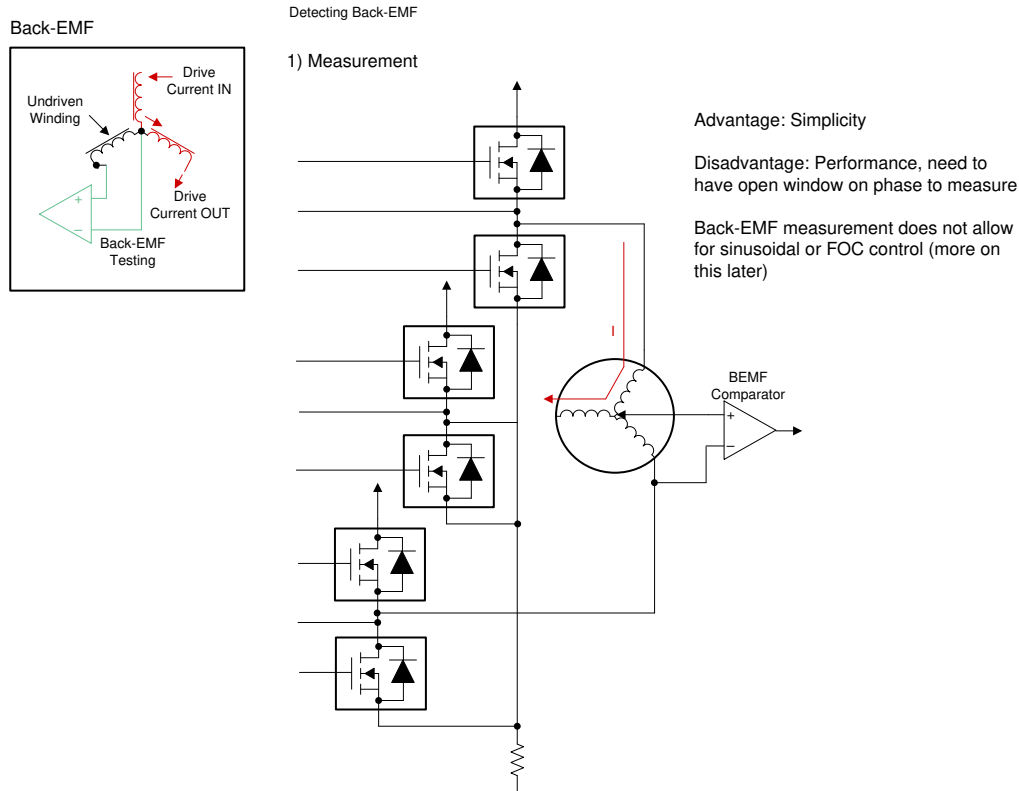
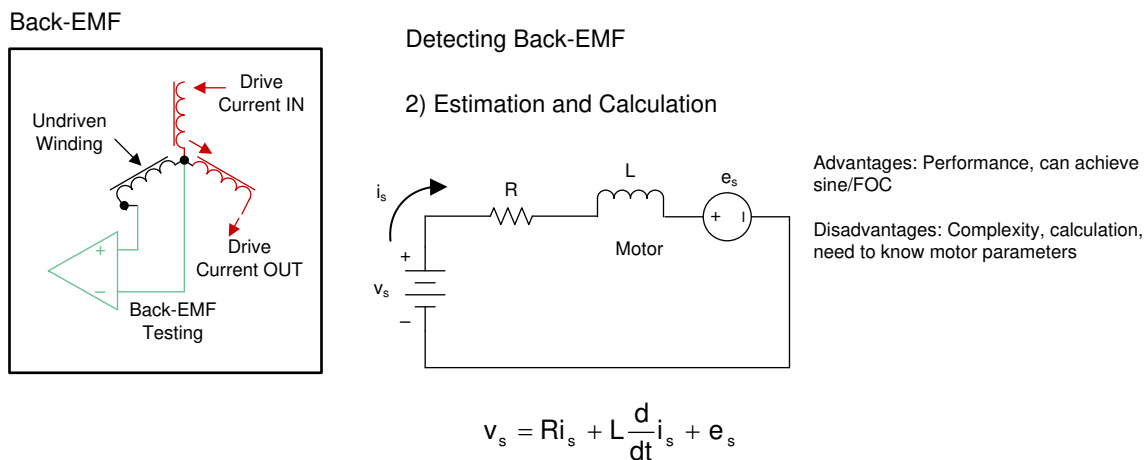

Figure 2-7. Estimating Back-EMF Using a BEMF Comparator
Figure 2-8. Calculating Back-EMF Using Known Motor Parameters and a First-Order Differential Equation
Sensorless solutions remove any sensed components from the design, which helps save on BOM costs. Many TI motor drivers can detect the position of the brushless-DC motor without the use of Hall-effect sensors by either measuring back-EMF voltages generated on unconnected windings of the motor driver (Figure 2-7) or internally estimating the back-EMF voltage (E_s) generated (Figure 2-8) using winding resistance (R), winding inductance (L), phase current (I_s), and motor voltage (V_s).